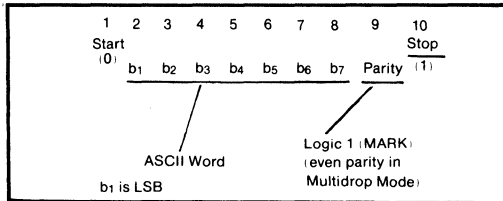

FIGURE 4. Order of Bit Transmission.
The character code used is the American Standard Code for Information Interchange (ASCII) (see Table V) and ISO 646-1973(E) Standard. The order of bit transmission is that commonly used and specified by ISO and ANSI as shown in Figure 4.